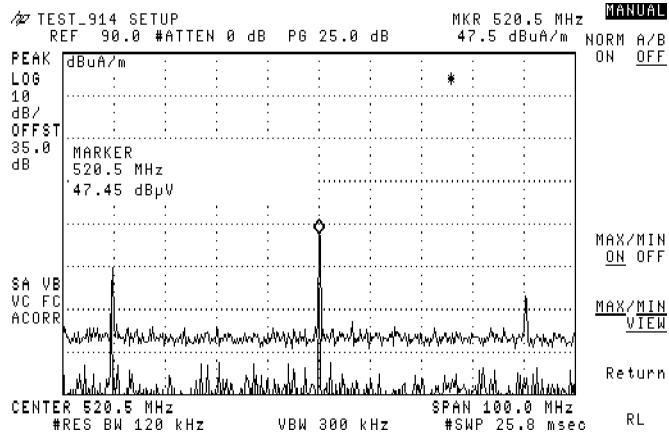

Figure 3-8. Signals Viewed with MAX MIN VIEW
36. Toggle **MAX MIN VIEW** between MAX, MIN, and VIEW to view max-held, min-held, and both signals on the display. See Figure 3-8.